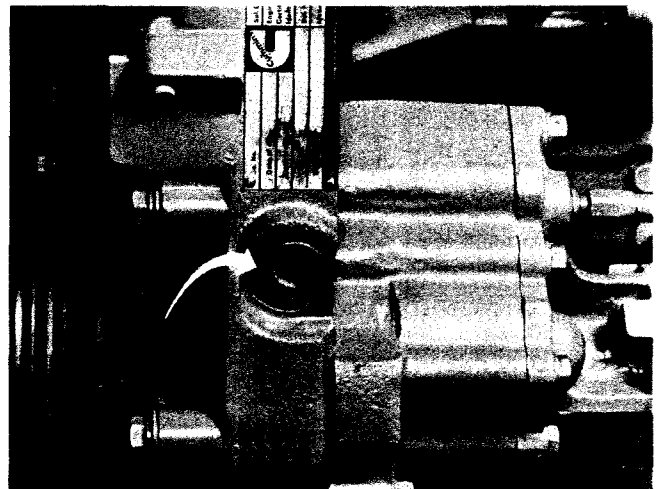
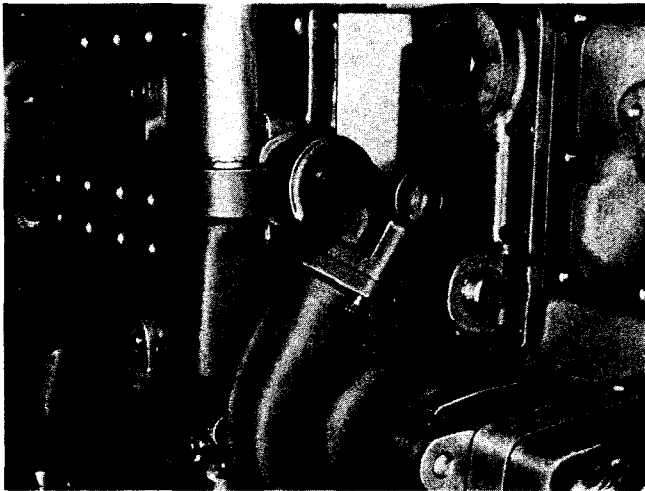

Fig. 1-1, (N11985). Lubricating system priming point — N/NT-855 Engine
Fig. 1-7, (K11949). Lubricating system priming point — KT(A)-1150 Engine
2. Remove plug from lubricating oil crossover passage on NH/NT-855 Engines, Fig. 1-1. Remove plug from head of lubricating oil filter housing on V Engines, Fig's. 1-2, 1-3, 1-4, 1-5 and 1-6. On KT/KTA-1150 Engines, remove plug from front of oil cooler housing, Fig. 1-7.